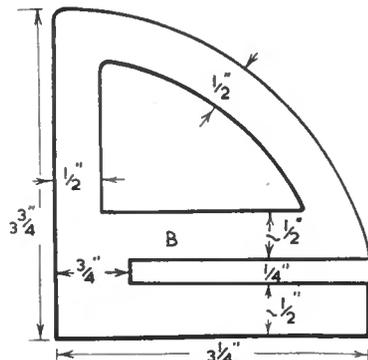

Fig. 3
Now, turn to the handle part (B) shown in Fig. 3 and draw this out on paper in the same way that you did the base (A). The secret of an accurate drawing is to get the angle a true right angle. You can do this with compasses, but an easier method is to use a set-square.